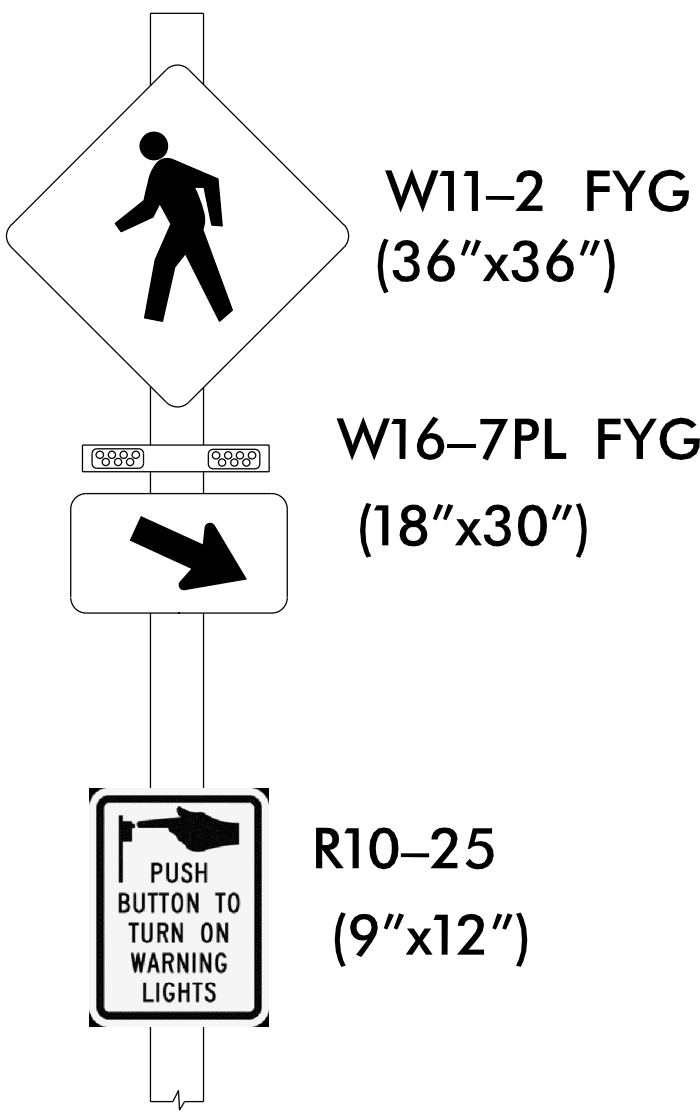

FIGURE 2 - SIGN C
- (C) RRFB w/ Right Arrow & "PUSH BUTTON TO TURN ON WARNING LIGHTS" Sign (See Fig. 2)
- (D) "YIELD HERE TO" Pedestrian Sign (R1-5L)